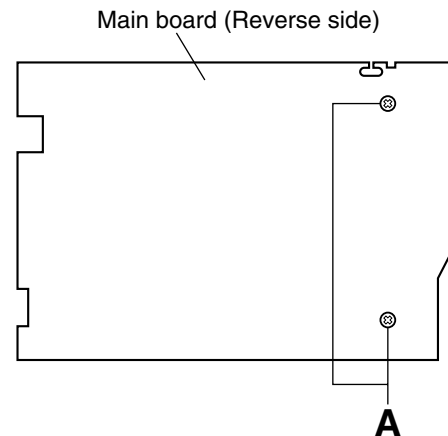

Fig.2
■ Replacing the power amplifier IC on the main board (See Figs. 2 and 3.)
- From the reverse side of the main board, remove the two screws **A** retaining the bracket. (See Fig.2.)
(See Fig.2.)